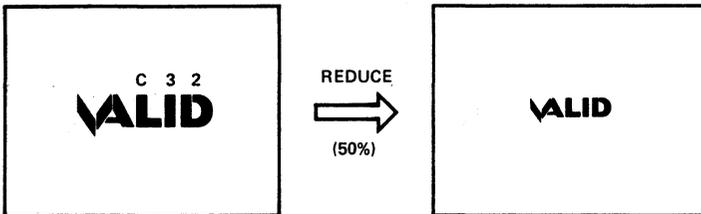

Figure 3-12. Zooming Out and Reducing
2. Move the cursor to the place on the drawing to be centered on the screen and press any button. An asterisk appears on the screen. This first point is labeled **C** (for center) in Figure 3-12.
3. Move the cursor to the right an inch (or so) and press any button. A second asterisk appears. This second point is labeled **2** in Figure 3-12.
4. Move the cursor back to the left to a point about halfway between points 1 and 2 and press any button. This third point is labeled **3** in Figure 3-12.